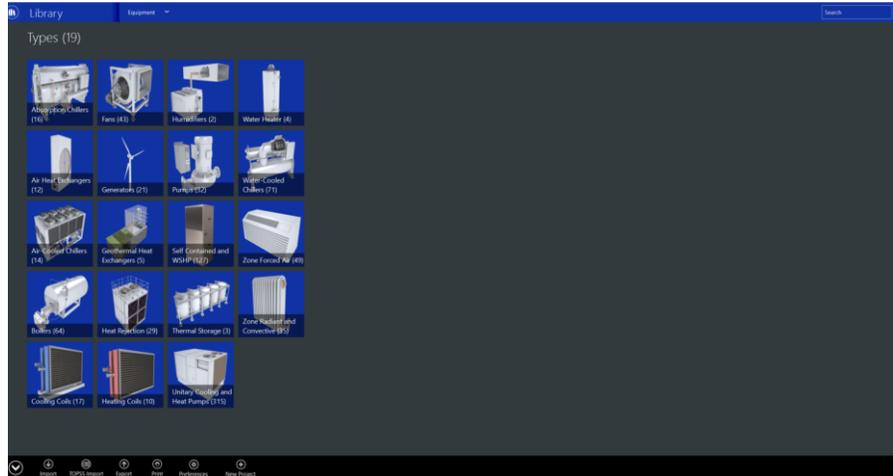

Figure 23: Library- Types of Equipment
3. Click the “Equipment” among the “Libraries” categories and the equipment are categorized by the “Types” as shown in Figure 23.